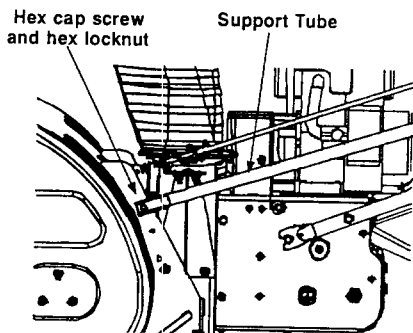

FIGURE 8
- Remove the hex cap screw and hex locknut from the housing. See figure 8.
- Push primer button two or three times. See figure 8.